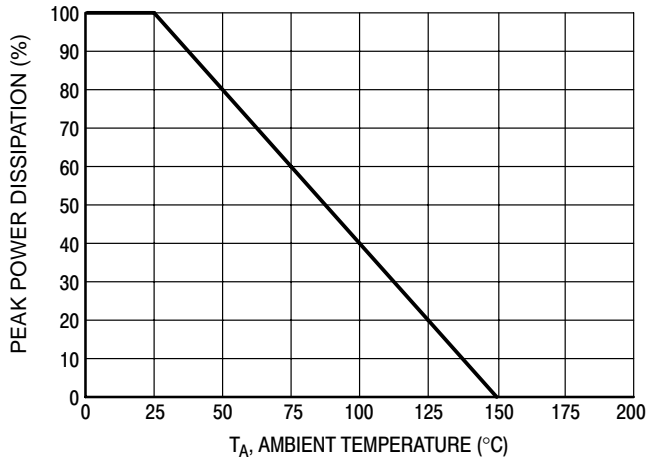

Figure 1. Pulse Derating Curve
1. Non-repetitive current pulse per Figure 1 (Pin 5 to Pin 2)
- Non-repetitive current pulse per Figure 1 (Pin 5 to Pin 2)